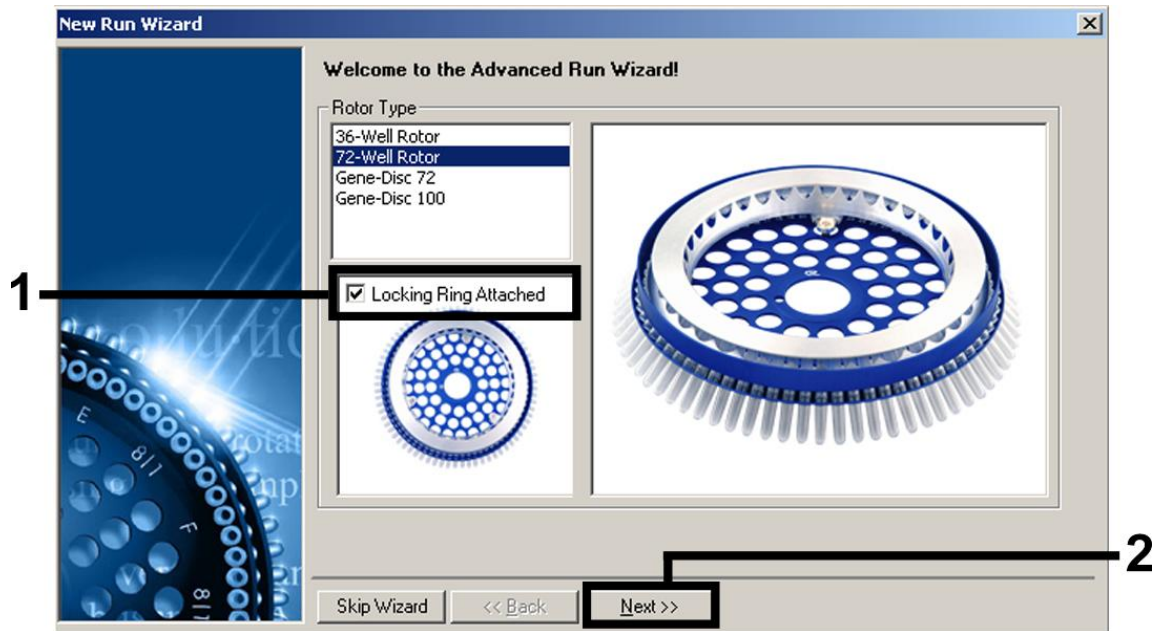

Figure 3. The “New Run Wizard” dialog box.
Setting the general assay parameters	Figures 3, 4, 5
6. First, open the “New Run Wizard” dialog box with the “Advanced” version (Figure 3). Check the “Locking Ring Attached” box and click “Next”.